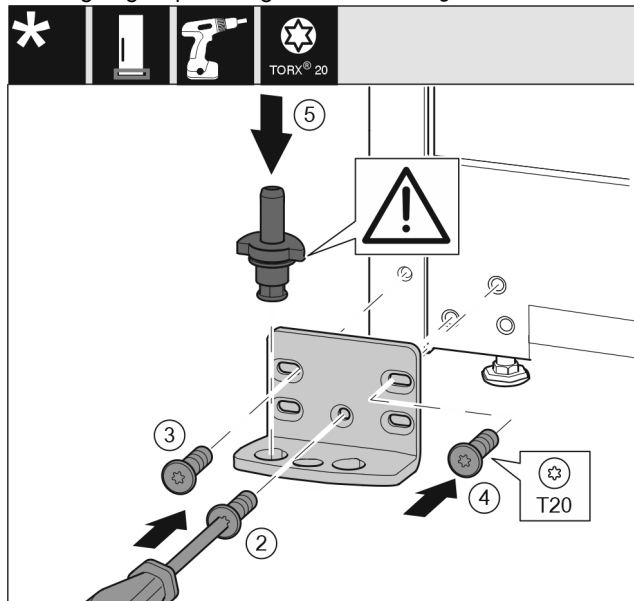

Fig. 17
- Place the bearing bracket on the other side and screw it in using the T20 screwdriver. Start with screw 2 at the bottom in the middle. Fig. 17 (2)
- Screw in screws 3 and 4. Fig. 17 (3,4)
- Insert the bearing pin completely. Make sure that the latching lug is pointing to the rear. Fig. 17 (5)